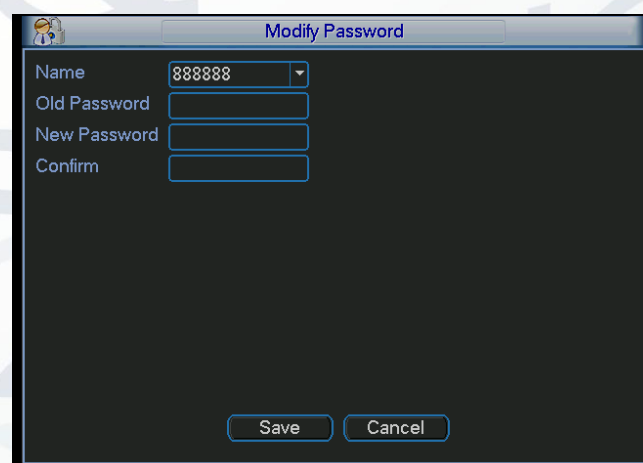

Figure 5-89
1. Click the password button, the interface is shown in Figure 5-89.